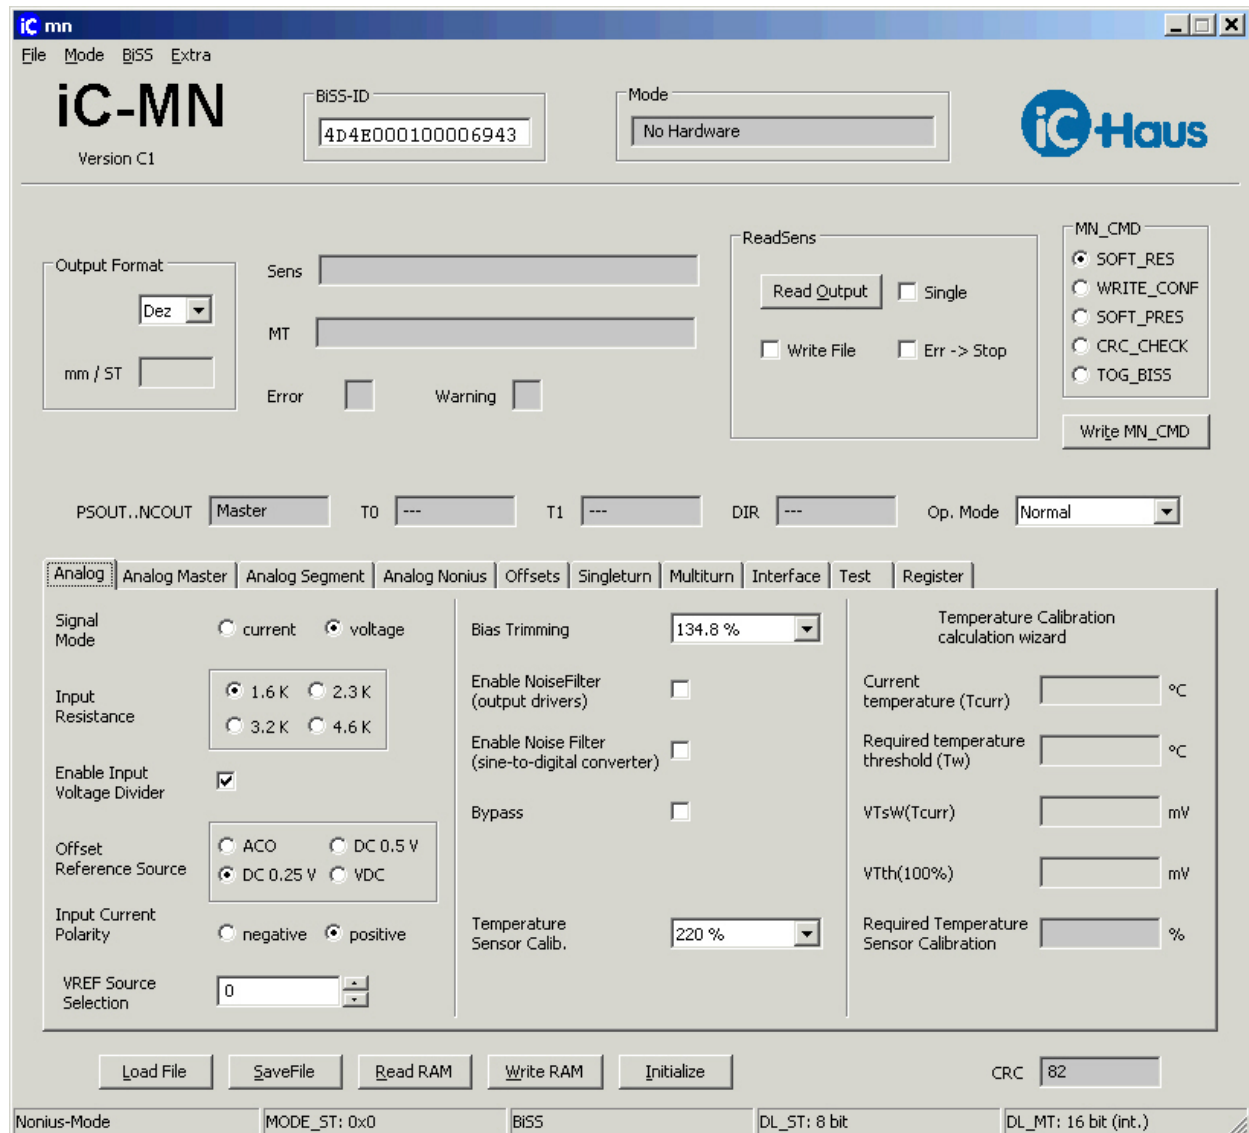

Figure 6: iC-MN software after startup
3. Installation will make the software "iC-MN\_xx.exe" available in the selected working directory. The execution of this file will start the software. Figure 6 shows a screenshot of the startup window.